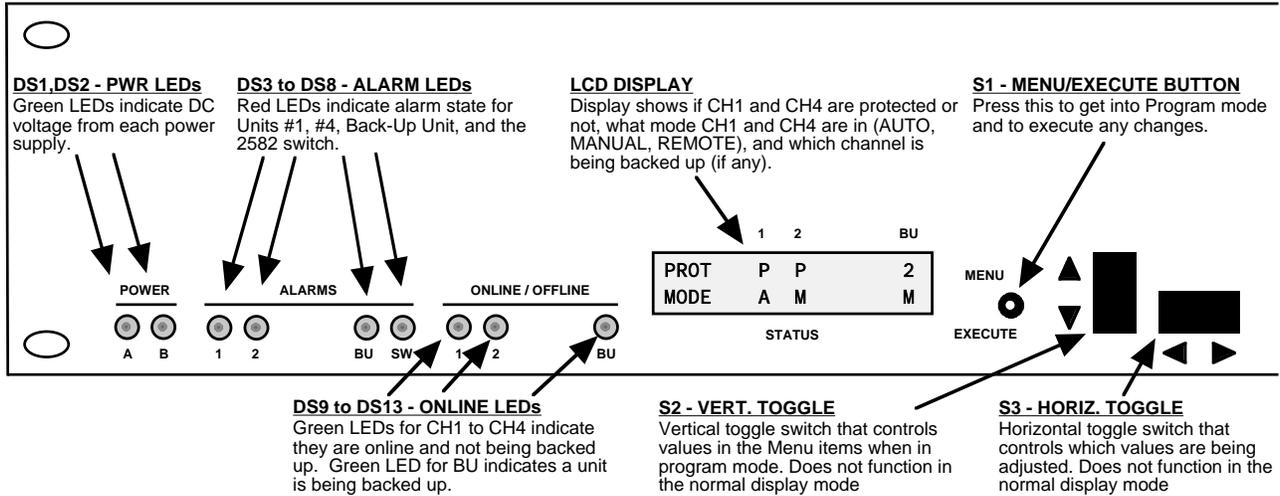

FIGURE 2.2 2582-324 Front Panel Controls and Indicators
Figure 2.2 shows the front panel controls and indicators.
5. Be sure DS1 & DS2 (green, DC Power) are on and DS3 to DS8 (red, Alarm) are off (Figure 2.2).
Alarm indications appear on the LEDs (see figure 2.2).